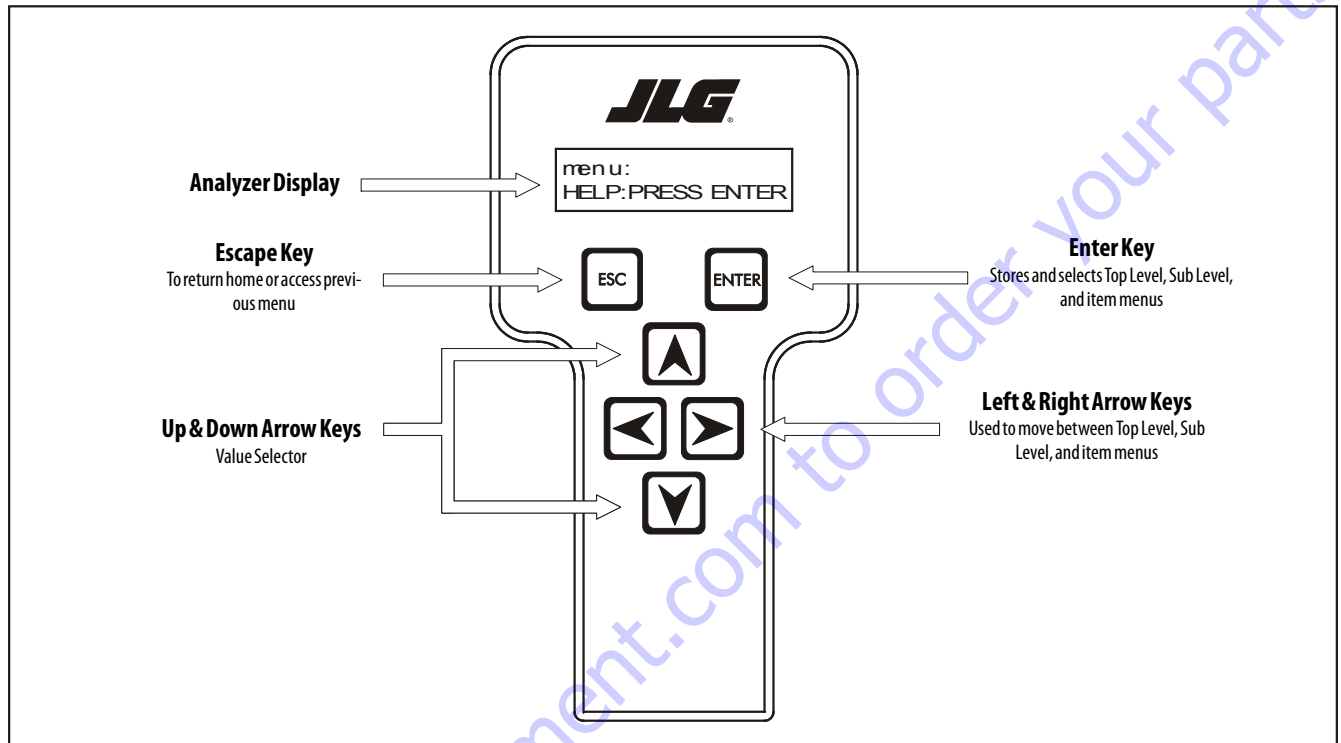

Figure 5-1. Hand Held Analyzer
**NOTE:** Refer to Table 5-2, Machine Model Adjustment (Personality Settings) and Figure 5-1, Machine Configuration Programming Information for the default settings.